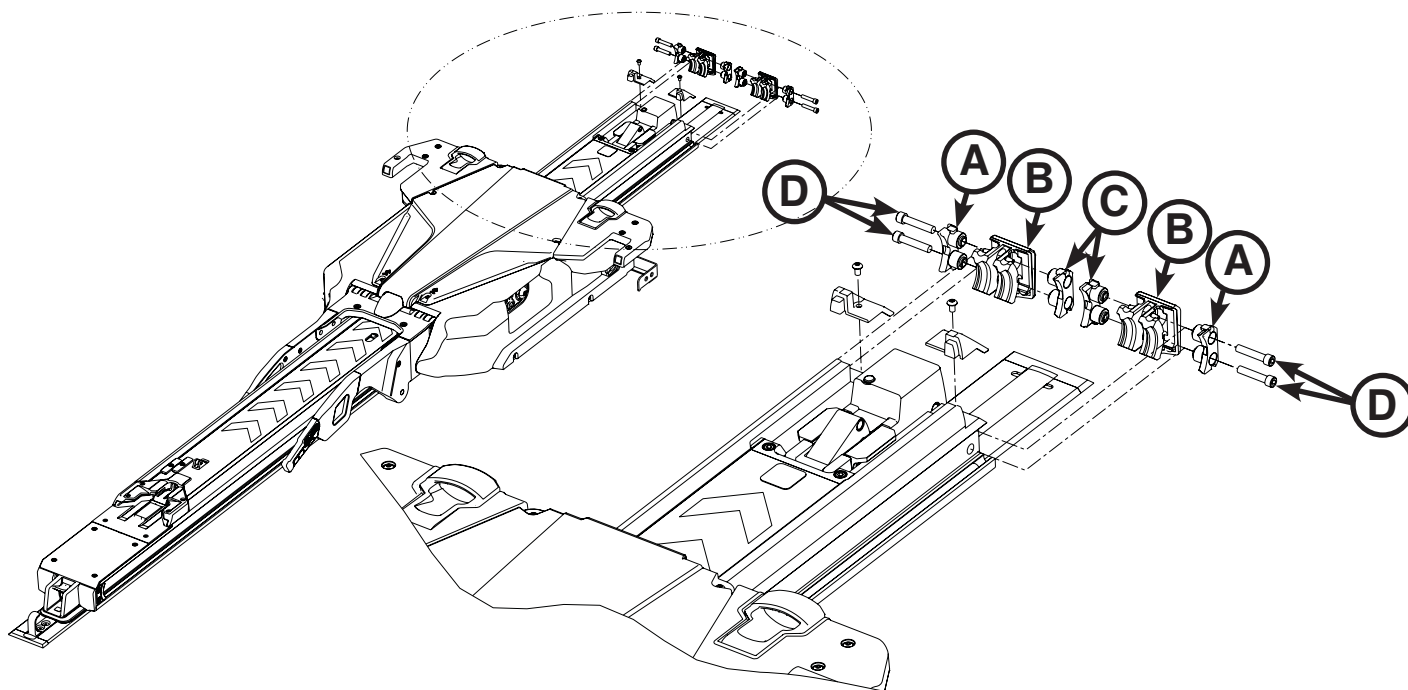

Figure 23: Assemble Bumper Block
14. Assemble the bumper block by aligning the supplied dead stop block (6390-001-244) (with through holes) (A) with the supplied dead stop bumper (6390-001-243) (B) and the supplied inner dead stop block (6390-001-246) (with threaded holes) (C) as shown in Figure 23.
17. Using a 3/16" Allen wrench, install the four supplied socket head cap screws (0004-662-000) (two for each side) (D) into the transfer assembly as shown in Figure 23.